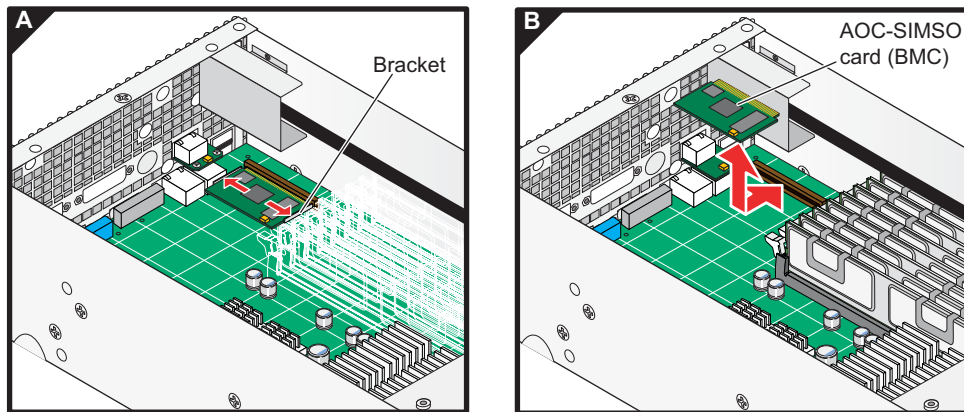

Figure 3-12 BMC Daughter Card Removal
2. Press the retaining bracket arms apart and gently lift the end of the daughter card that is not in the bracket (refer to Figure 3-12, A).
3. Disconnect the daughter card from the node board connector and remove the daughter card (refer to Figure 3-12, B).